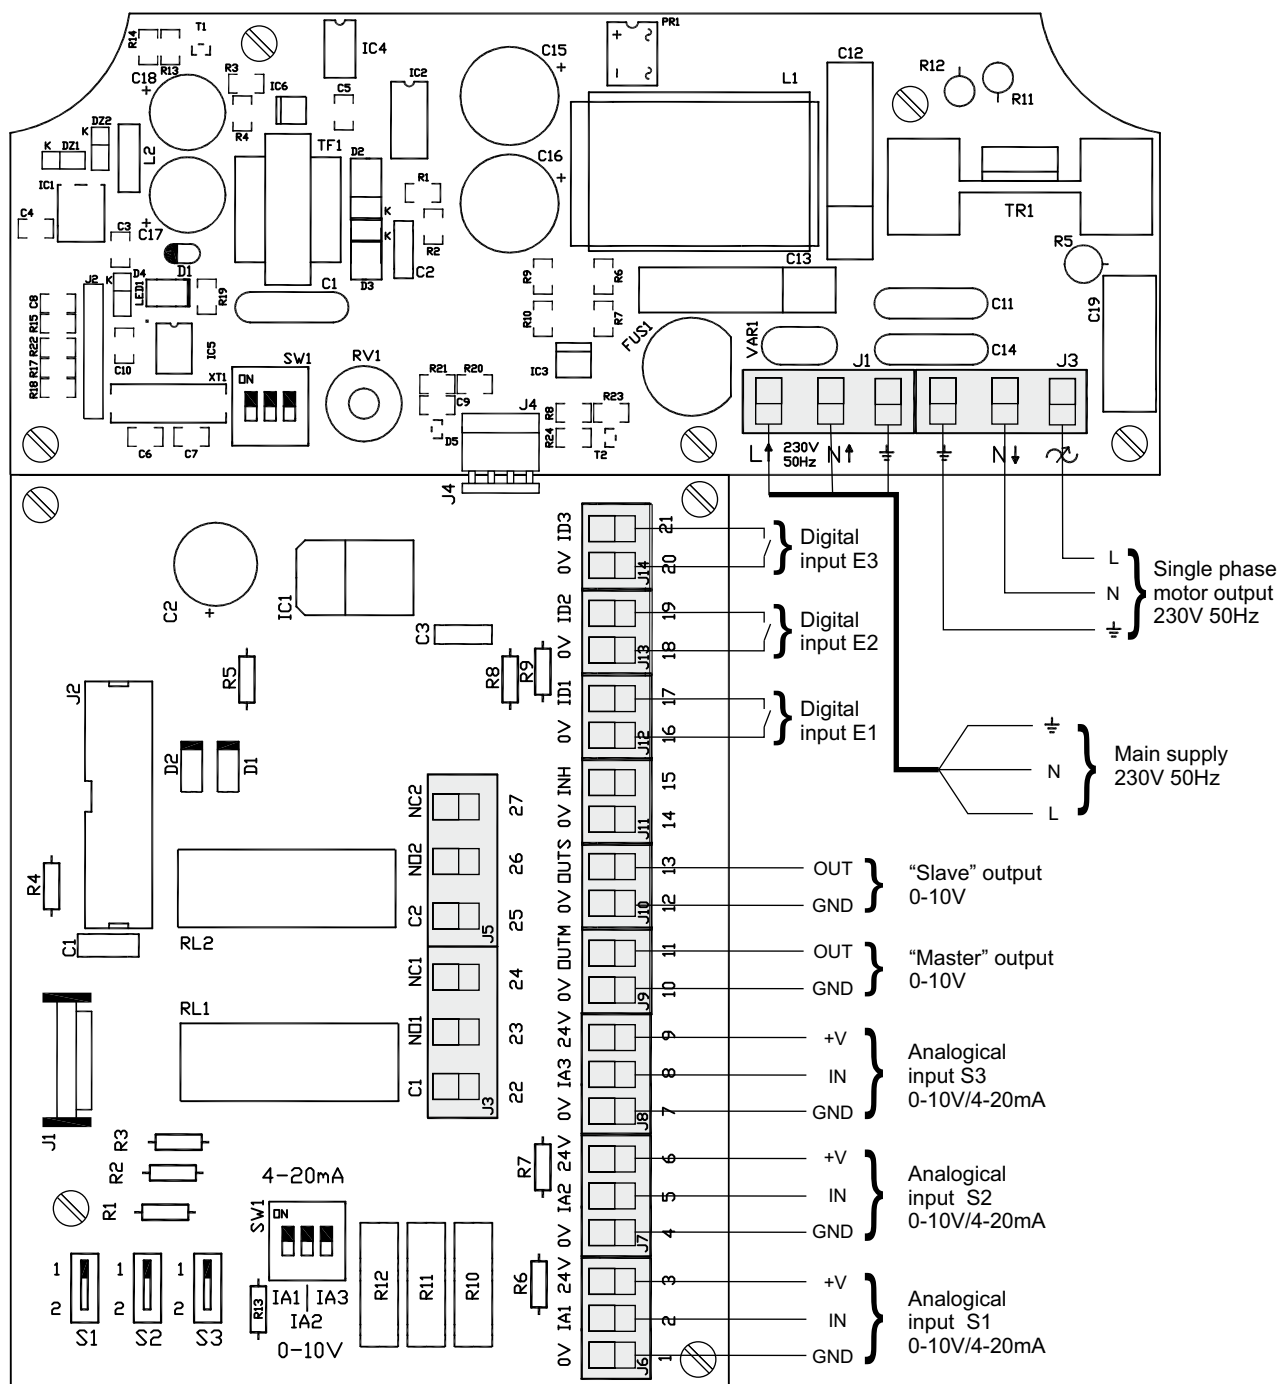

Fig.2
- **CONTROL ECOWATT AC/4A:** model with single-phase AC input and voltage output for single-phase motors up to 4A. With this model, 0-10V analogical outputs for DC motors or frequency converters are also active (Fig.2).